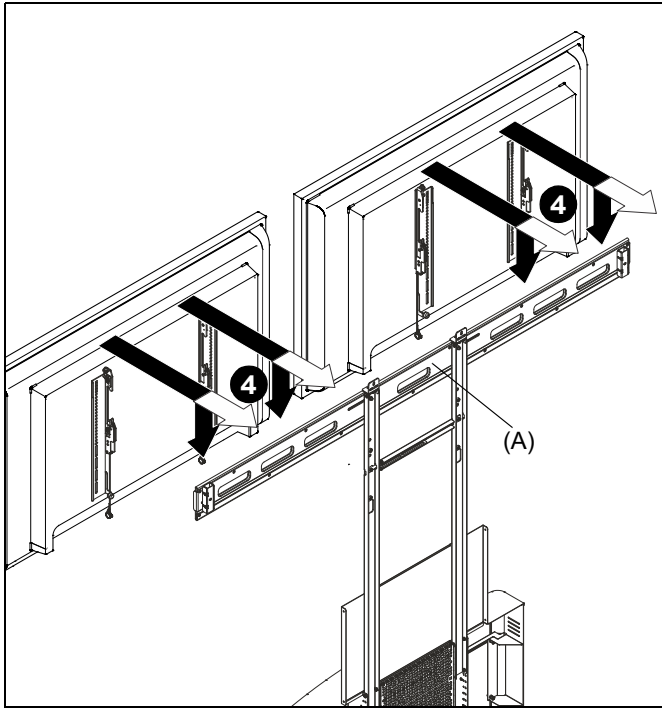

Figure 12
4. Hang displays on cross bracket (A). (See Figure 12)